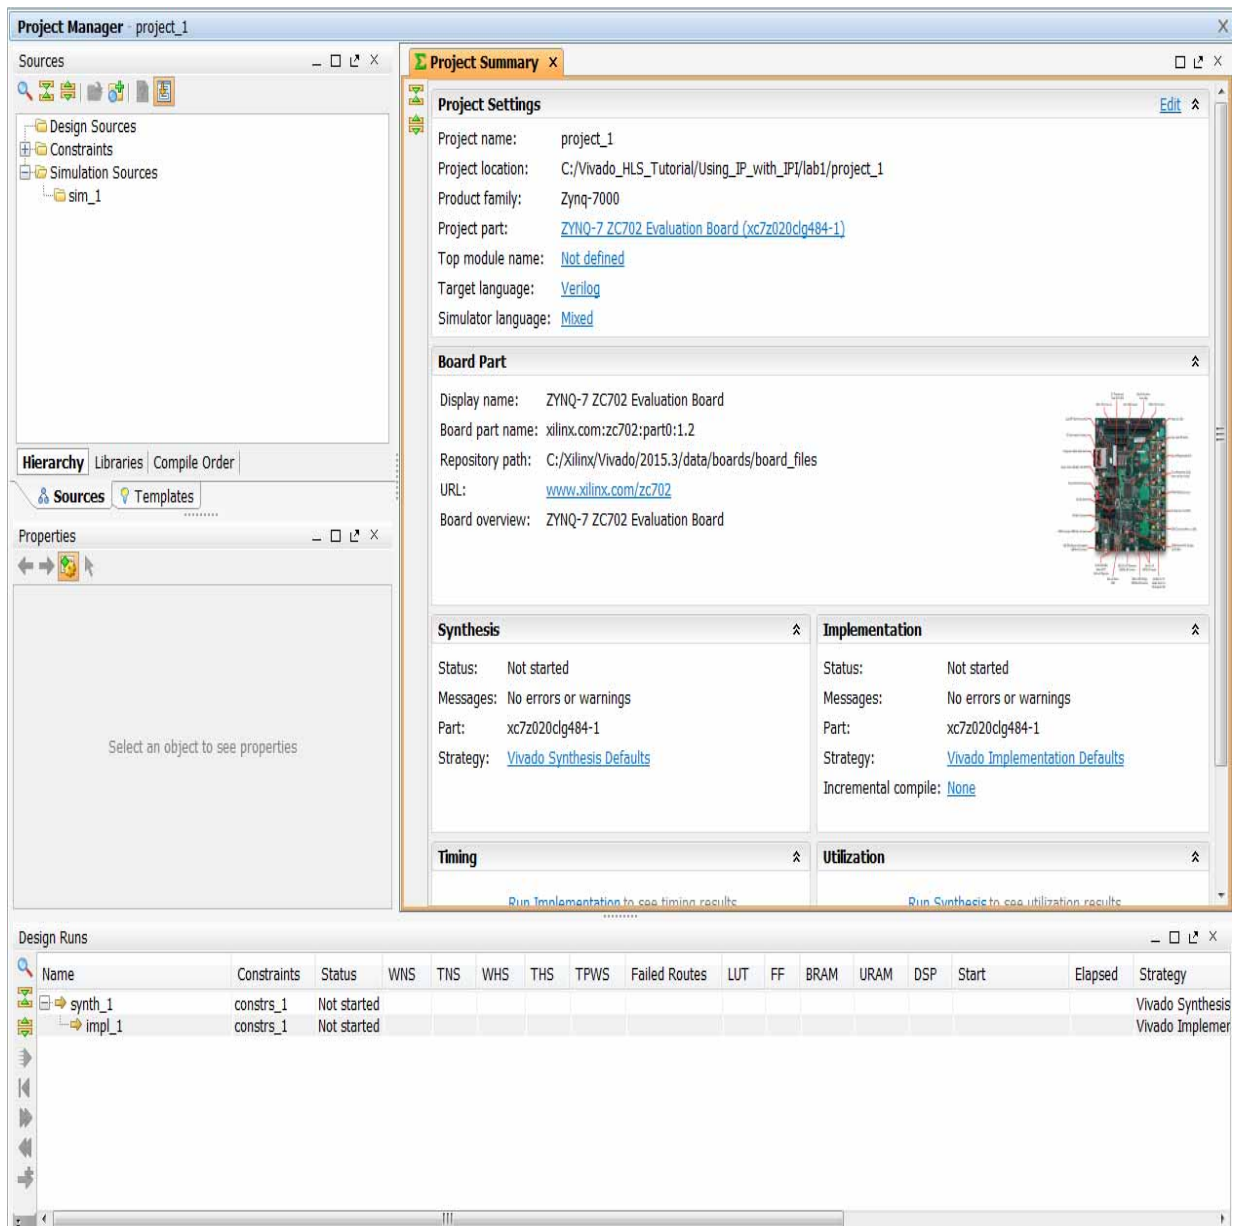

Figure 9-6: Vivado Project
7. On the New Project Summary Page, click **Finish** to complete the new project setup. The Vivado workspace populates and appears as shown in Figure 9-6.